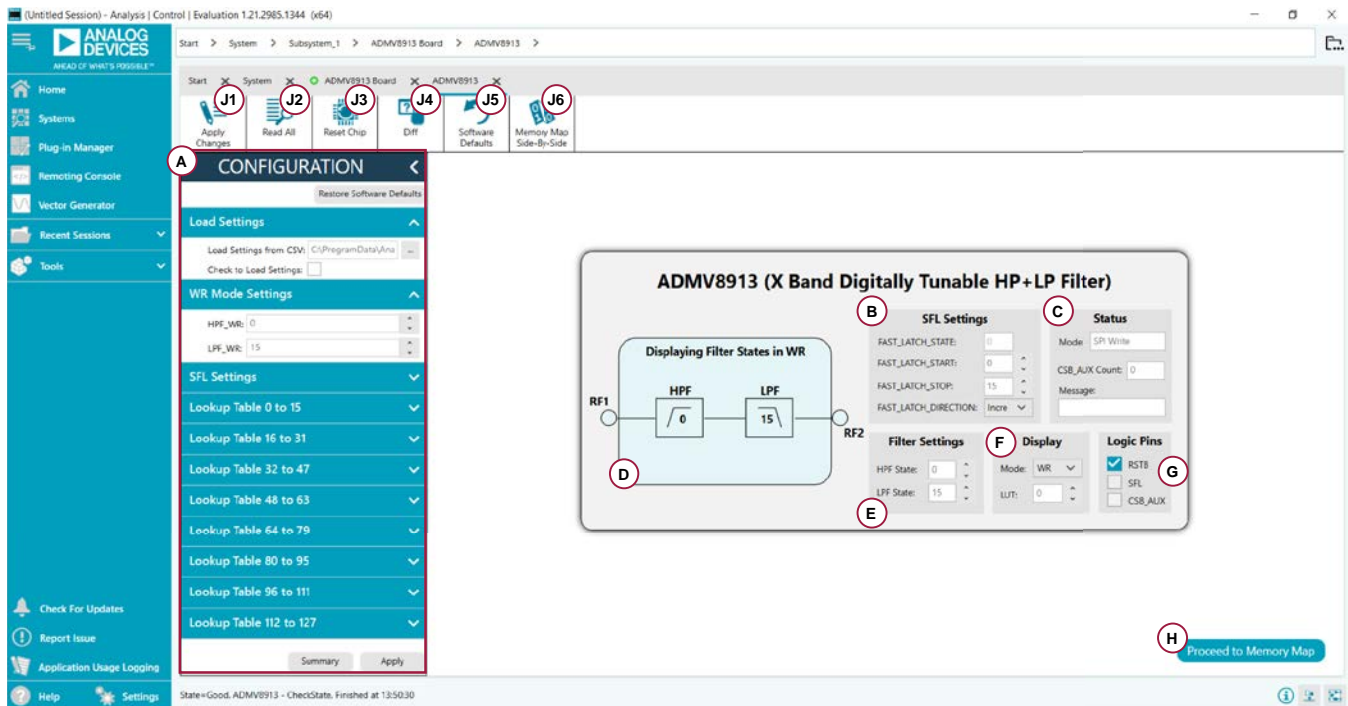

Figure 7. ADMV8913 Chip Plug-In with Labels
The full screen ADMV8913 chip plug-in with labels is shown in Figure 7. The labels correspond to items listed in Table 1, which describes the functionality of each section. For additional detailed programming, refer to the ADMV8913 data sheet.
Table 1. ADMV8913 Block Diagram Label Functions (See Figure 7)
A	<p>Use the CONFIGURATION section to initialize the ADMV8913-EVALZ.</p> <p>Load Settings from CSV: click the ... button to select which CSV file to load into the CONFIGURATION section.</p> <p>Check to Load Settings: once a file has been selected, select this check box to load the CSV file contents into the CONFIGURATION section. Note that a check mark does not appear when the check box is selected.</p> <p>WR Mode Settings: select the HPF and LPF settings for SPI write mode.</p> <p>SFL Settings: select the SPI fast latch (SFL) settings that are used when the chip is placed into the SPI fast latch mode. Note that this function is not shown in Figure 7. Scroll down in the CONFIGURATION section to view this function.</p> <p>Lookup Table 0 to 15: define the configuration for lookup table (LUT)0 to LUT15.</p> <p>Lookup Table 16 to 31: define the configuration for LUT16 to LUT31.</p> <p>Lookup Table 32 to 47: define the configuration for LUT32 to LUT47.</p> <p>Lookup Table 48 to 63: define the configuration for LUT48 to LUT63.</p> <p>Lookup Table 64 to 79: define the configuration for LUT64 to LUT79.</p> <p>Lookup Table 80 to 95: define the configuration for LUT80 to LUT95.</p> <p>Lookup Table 96 to 111: define the configuration for LUT96 to LUT111.</p> <p>Lookup Table 112 to 127: define the configuration for LUT112 to LUT 127.</p> <p>Summary: click this button to review the settings for the initial setup.</p> <p>Apply: click this button to apply the settings to the chip. Note that clicking Apply Changes (J1) does not update the changes in this section. In addition, at startup, the main diagram user controls cannot be updated until the Apply button is clicked at least once.</p> <p>Restore Software Defaults: click this button to zero out the CONFIGURATION section prior to loading a different CSV file.</p>
If a reset of the ADMV8913 chip is required on the ADMV8913-EVALZ, click **Reset Chip** (see Figure 7 and Label J3 in Table 1 for additional information). This automated sequence performs the following actions:
- The **RST** pin can also be pulled low from within the **ACE** software by unchecking the **RSTB** check box in the lower right corner of Figure 7 (see Label G). When using this option, be sure to click the check box again to return the **RST** pin high.